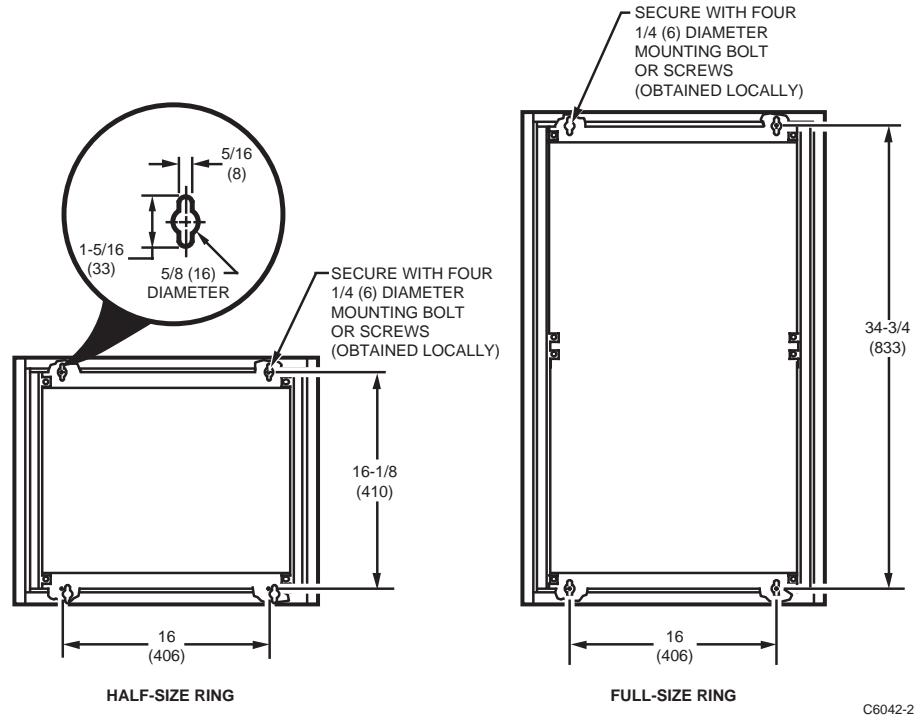
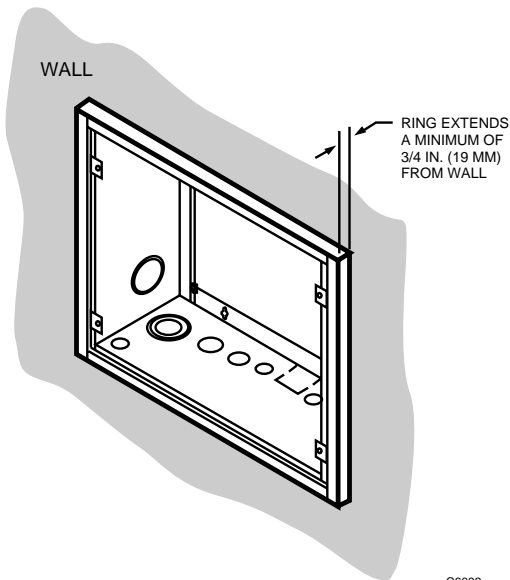

Fig. 3. Ring mounting hole locations, sizes in in. (mm).
Fig. 7. Semi-flush mounted Ring (half-size shown).
1. Use the Ring as a template and mark and drill four mounting holes (see Fig. 3).
See Fig. 3 for rough-in hole dimensions. Ring mounting depth in wall (see Fig. 7) depends on the wall construction and job specifications.